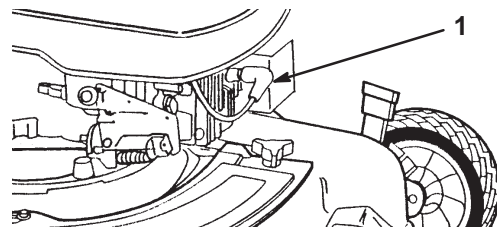

Figure 8
- Disconnect the wire from the spark plug (Fig. 8).
1. Connect the wire onto the spark plug (Fig. 8).